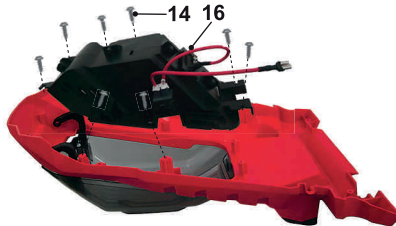

Fig. 10
3. Remove the 8 self-tapping screws ST4.2\*13 (14) using a Philips #2 screwdriver (Fig. 10).